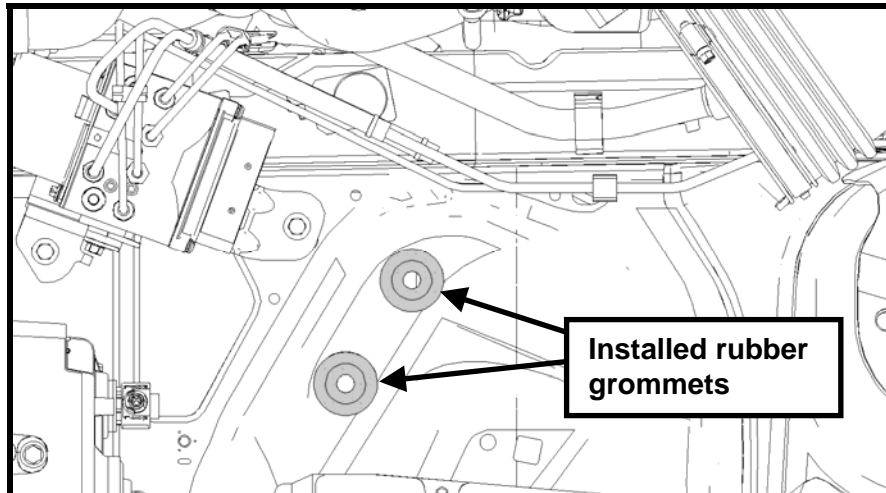

Fig. 34
**STEP 18:** Install the rubber grommets (previously removed from the factory airbox) into the holes located beneath the airbox, rearward of the ABS module (See Fig. 34).